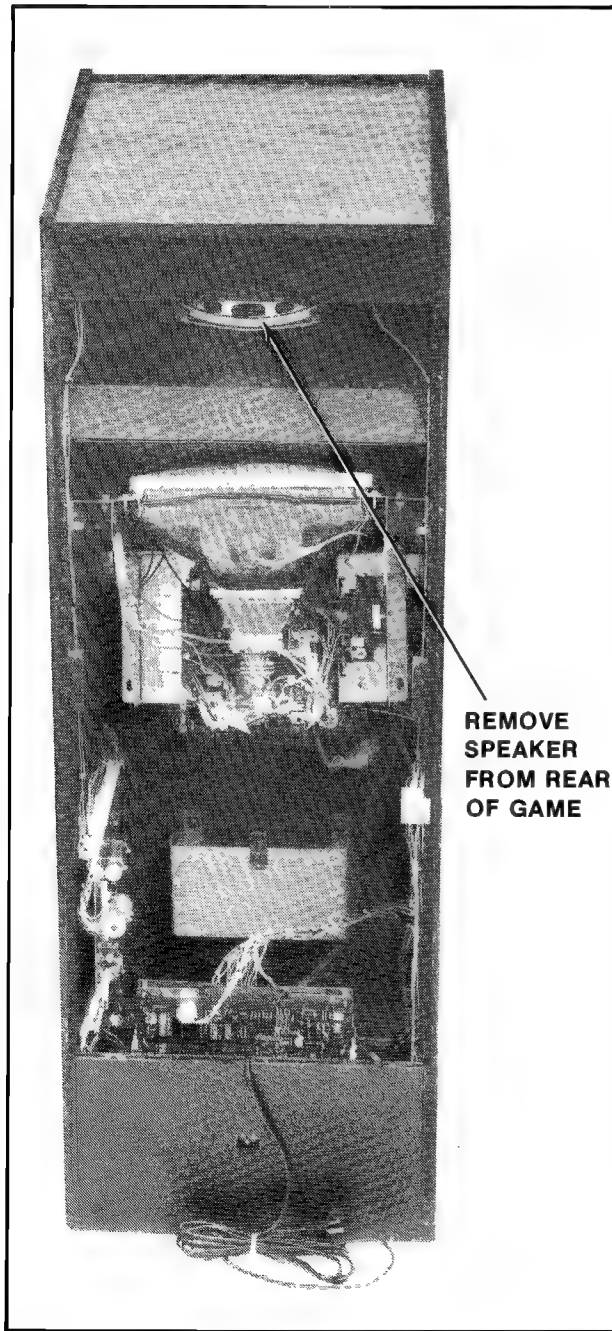

Figure 26 Replacing speaker — Mini game
- To replace the speaker. See Figure 26.